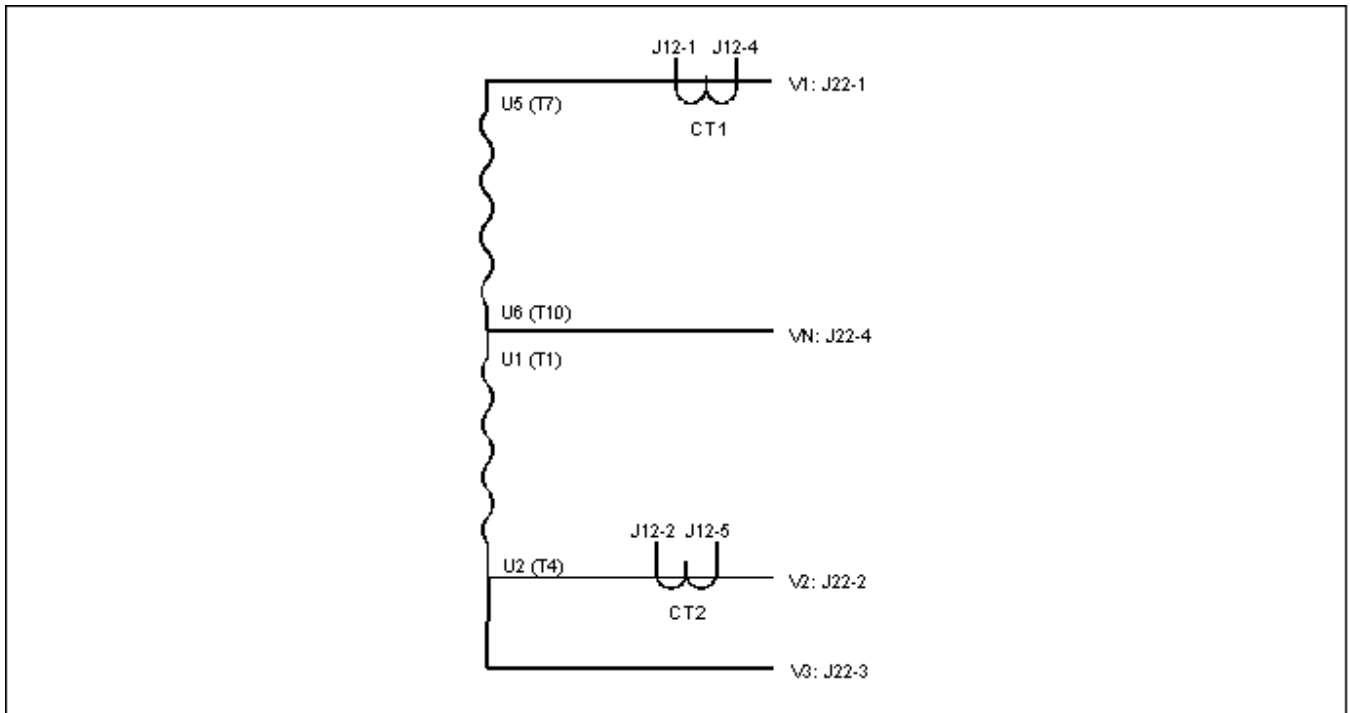

FIGURE 78. ALTERNATOR CONNECTIONS: SINGLE PHASE
- Figure 78. Alternator Connections: Single Phase 453